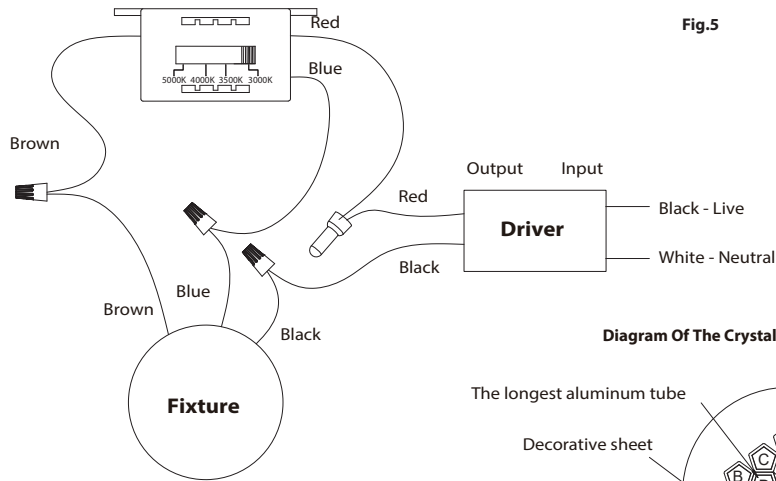

Fig. 5
12. For slope ceiling applications, rotate swivel at the top of the stem to ensure luminaire is aiming down (Fig.5).